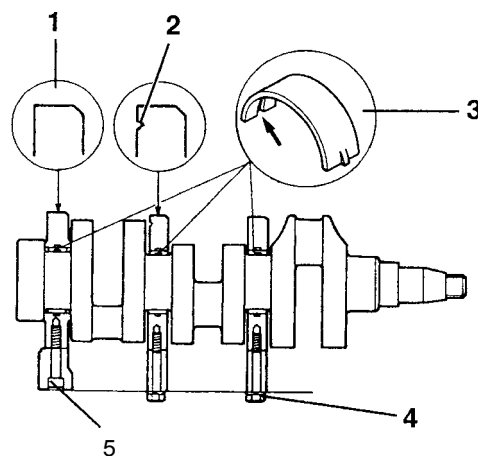

Fig. 79a. Fitting of main bearing cap MD2010, MD2020, MD2030
**Note :** The bevelled edge (1, Fig. 79a and 79b) should be turned forwards on all caps.
- Fit the cap which is provided with a groove as per 2, Fig. 79a and 79b.
**Note:** The bearing cups provided with an oil groove (3, Fig. 79a and 79b) should be placed in the **top** cap.